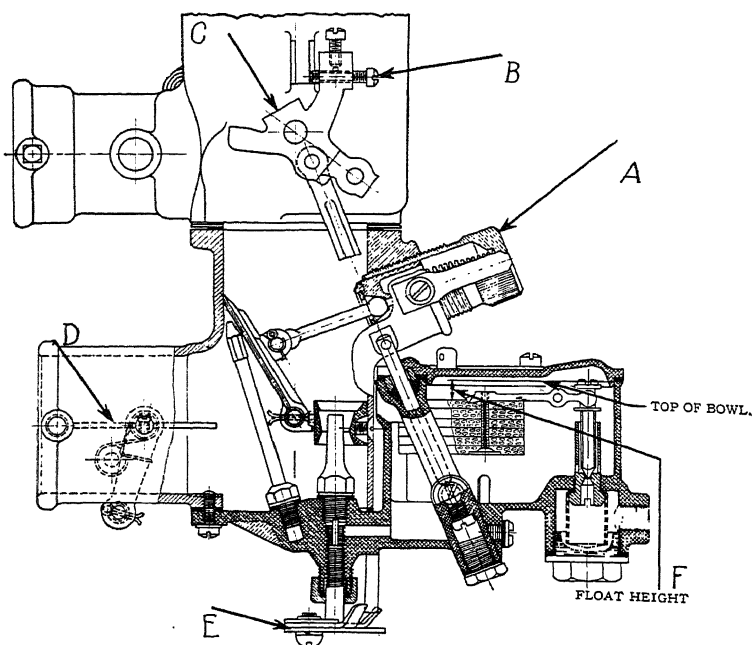

Fig. 86. Service Drawing of Model "T" Marvel
*Preliminary Adjustment.* First set the spark retarded and then adjust the idle speed by turning the air screw *A*, Fig. 86. Screw this out until the engine falters, then turn it in the opposite direction a few notches at a time until the engine runs smoothly. Have the engine thoroughly warmed up when making this adjustment. Also make sure that the heat control lever on the instrument board is set in a medium position for summer and with all heat on in the winter. If the air screw is turned in too far, a rolling effect will be noted in the engine and this indicates too rich a mixture. Adjust the air screw *A* until an even operation of the engine is secured.
*Choker Valve Adjustment.* The choker valve *D*, Fig. 86, is a butterfly valve in the main air intake. Inspect the choker valve to see that it closes completely when the choke is worked. If it does not, adjust the control so that it will close completely, otherwise hard starting will be encountered, especially in cold weather with a cold engine. Make a final inspection to see that it opens fully to the position shown in the dotted line at *D* and see that the choker valve is tight on its shaft.